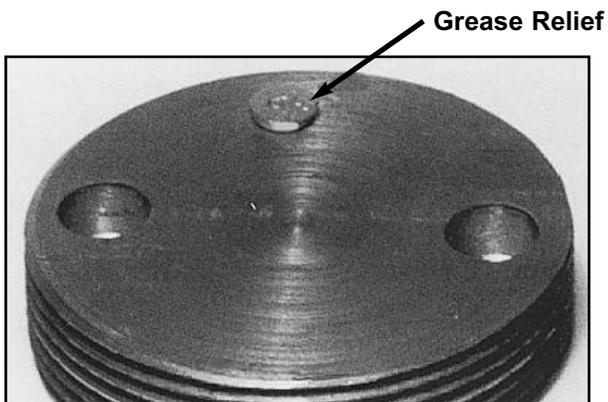

Figure 8 - Grease Relief
2. The newest Midland/Gunite automatic brake adjusters are produced without a grease relief, forcing lubricant through the drilled worm wheel onto the camshaft. Previous designs incorporated a grease relief (See Figure 8).